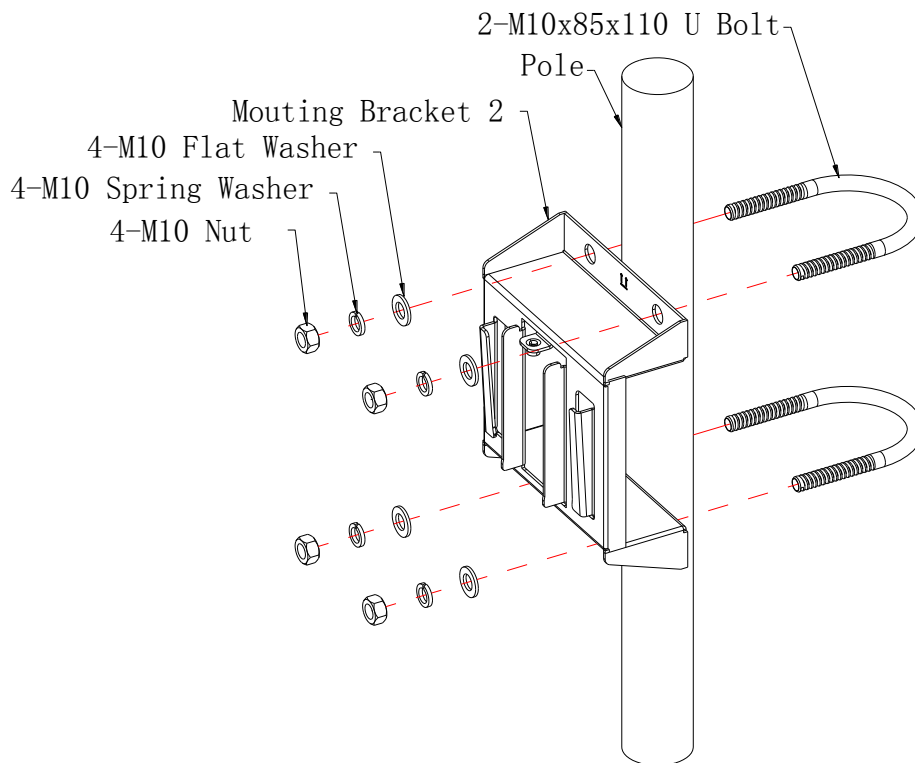

Figure 2 Pole-mount Installation Diagram
Step 2: use 2 U-Bolt to install the mounting bracket 2(RRH-3522-5832) to the pole(the diameter of the pole should less than 75 mm), as shown in Figure 2.